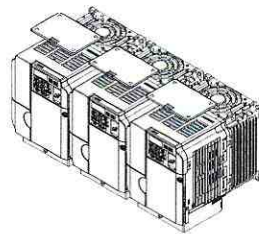

Figure i.8 IP20/NEMA 1, UL Type 1 Side-by-Side Mounting in Enclosure
**NOTICE:** When mounting IP20/NEMA 1, UL Type 1 enclosure drives side by side, the top covers of all drives must be removed as shown in Figure i.8.